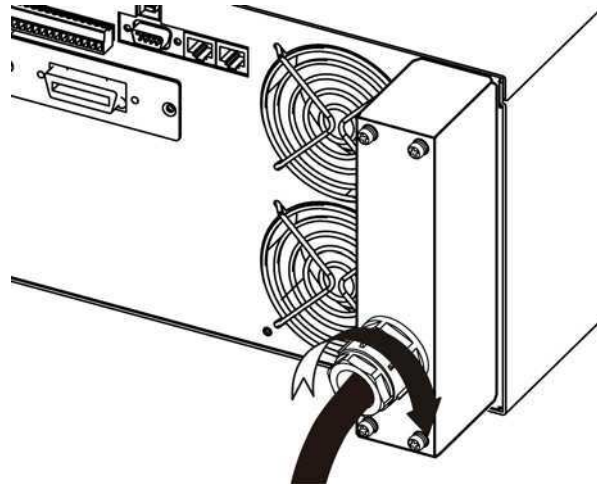

Figure 2-8 Assembling 62050P Input Terminal Safety Cover - 4
- d. At last secure the anti-pull device as Figure 2-8 shows.